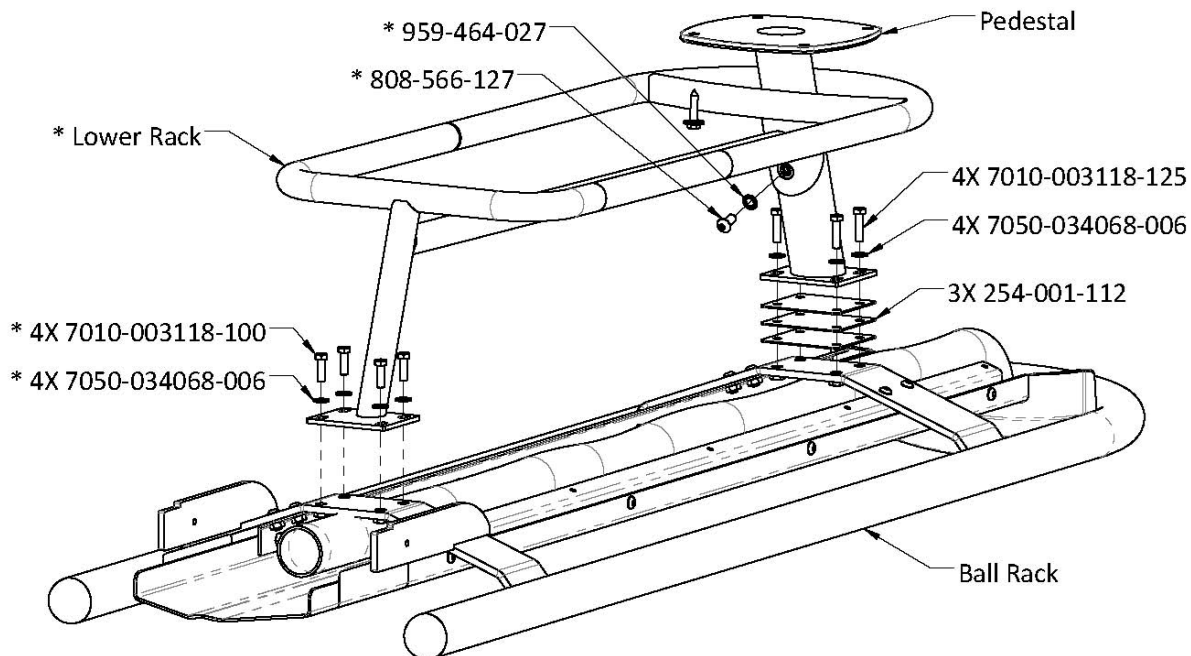

Figure 15 - Lower Ball Rack Mounting
3. Install the pedestal centered on the slots as shown in Figure 15. Use 3x1/8" thick shims between the pedestal and the rack. Shim(s) can be removed as needed later to achieve proper rack slope.